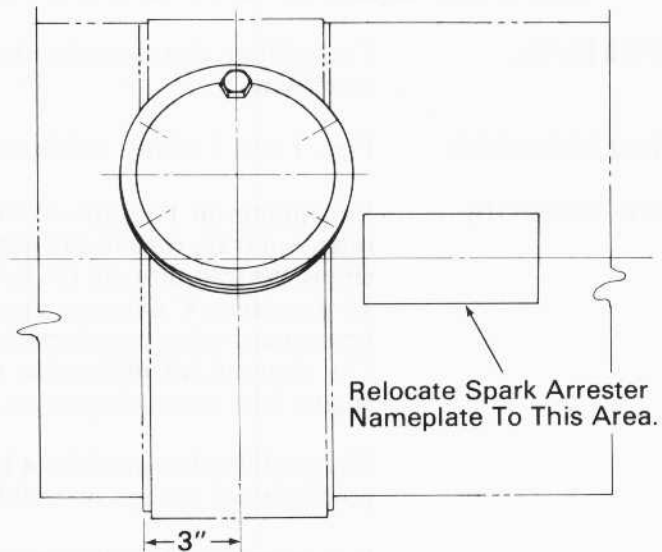

Fig.2 - Spark Arrester Nameplate Relocation
6. Reapply manifold nameplate to manifold chamber adjacent to spark trap, Fig. 2. Use E-308-16 stainless steel electrode.